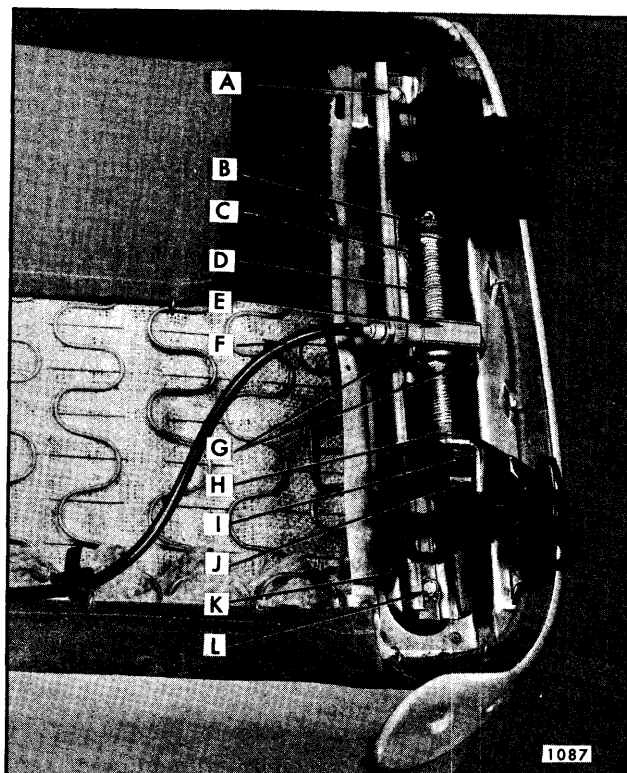

Fig. 15-6—Horizontal Power Adjuster - "C & E" Styles
3. Detach power drive cables from gear nuts of adjuster to be removed (Figs. 15-6, 15-7, 15-13 and 15-16).
4. Remove adjuster-to-seat bottom frame front and rear attaching bolts and remove adjuster from seat assembly (Figs. 15-6, 15-7, 15-13 and 15-16).
3. Using a "clutch" type screwdriver or other suitable tool, remove two shoulder bolts securing gearnut to upper slide portion of seat adjuster (Fig. 15-6).
3. Using a suitable tool (preferably a "clutch" type screwdriver) remove two shoulder bolts securing gearnut to upper slide portion of seat adjuster assembly (Fig. 15-6).
4. Remove retainer that secures stop bracket crosspin to adjuster front pedestal and remove crosspin (Fig. 15-6).
2. Using a suitable tool (preferably a "clutch" type screwdriver), remove two shoulder bolts securing gearnut to upper channel of seat adjuster assembly (Fig. 15-6).